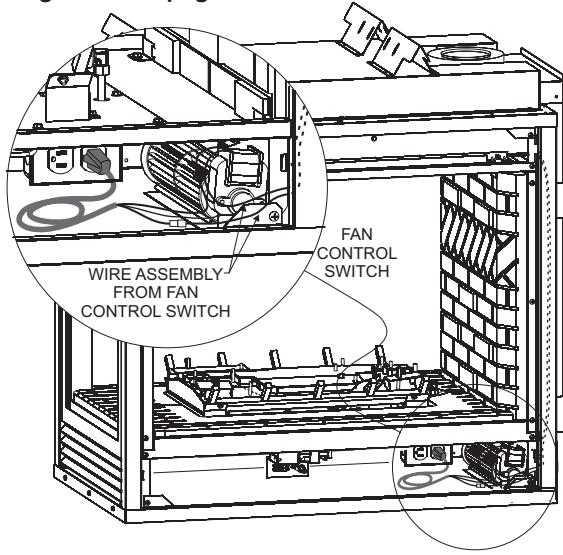

Figure 71
To install the blower kit or access the junction box, remove lower louver as illustrated by figure 71.
4. Insert blower assembly into interior, bottom of fireplace. Note: On peninsula models, the blower must be installed at the end which has the brick panel installed. Position blower assembly so that you align the notch on back of blower assembly with the center screw on side/end panel, then push the blower assembly against fireplace outer panel. The blower wheel must be centered with the side/end wall of the fireplace. The magnets on the back and bottom of blower assembly will sufficiently hold blower assembly in place. **See Figure 71.**
6. Next, find the fan control wire assembly. Feed the wires over the top of the firebox. The fan control wires will slide down between the firebox and outer wrap near the blower assembly. **See Figure 71.** Attach the two 3/16" wire terminals to the fan control switch as shown in Figure 72. Attach the wire terminals at the blower as shown by letters "A" and "B" in Figure 75 on page 60.